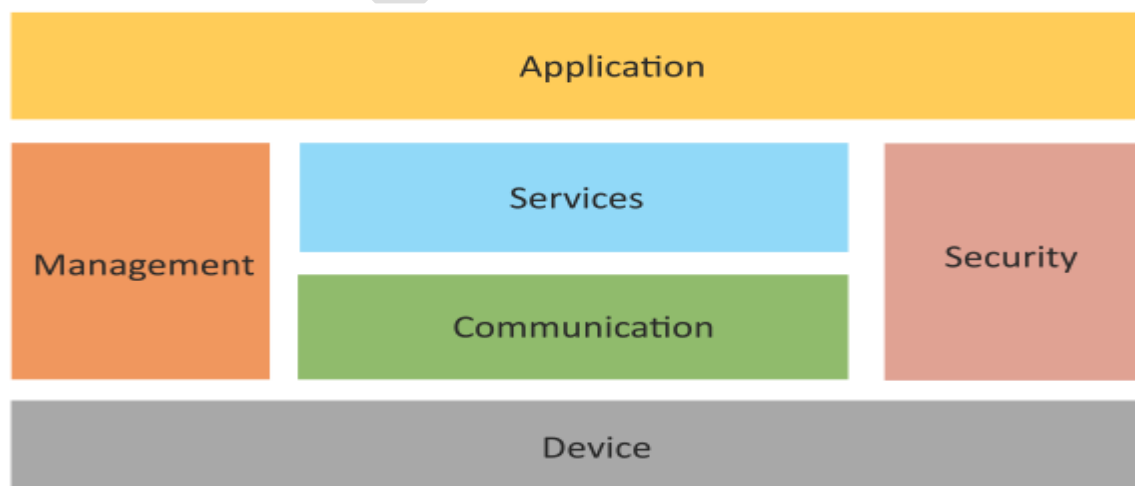

Fig 1.4: Functional Block Diagram of IoT.
- Fig 1.4 shows the functional block diagram of IoT. Below is the individual block explanation.